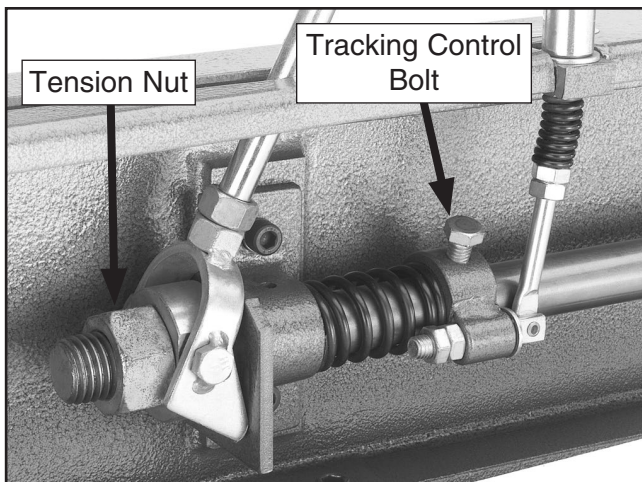

Figure 49. Belt tension nut and tracking control bolt.
6. Rotate the tension nut (**Figure 49**) counterclockwise to increase the belt tension and clockwise to decrease the belt tension.